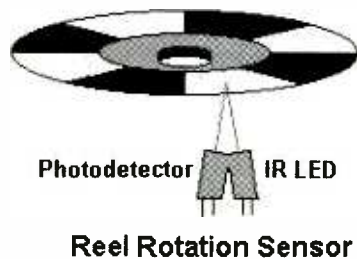

Fig. 2. Reel sensors.
Reel rotation is usually detected by optical sensors that are positioned under the reels (see Fig. 2). Some older VCRs may use mechanical or optical interrupters driven off belts from the reel spindles. There will always be a takeup reel sensor—even on a VCR that has a real-time counter. It serves two functions: (1) confirm that the reel is rotating and that tape is not spilling into the bowels of the machine and (2) operate the (non-real-time) tape counter. If this sensor fails, the VCR will shutdown almost immediately and will result in a stuck tape counter.